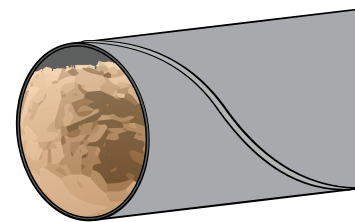

FIG. 9a
- Check with local agencies to ensure that your ducting is supported in a way that meets local codes. When determining the weight your hangers must support, always allow for the ducting being 100 percent clogged with whatever material is being conveyed [FIG. 9a].